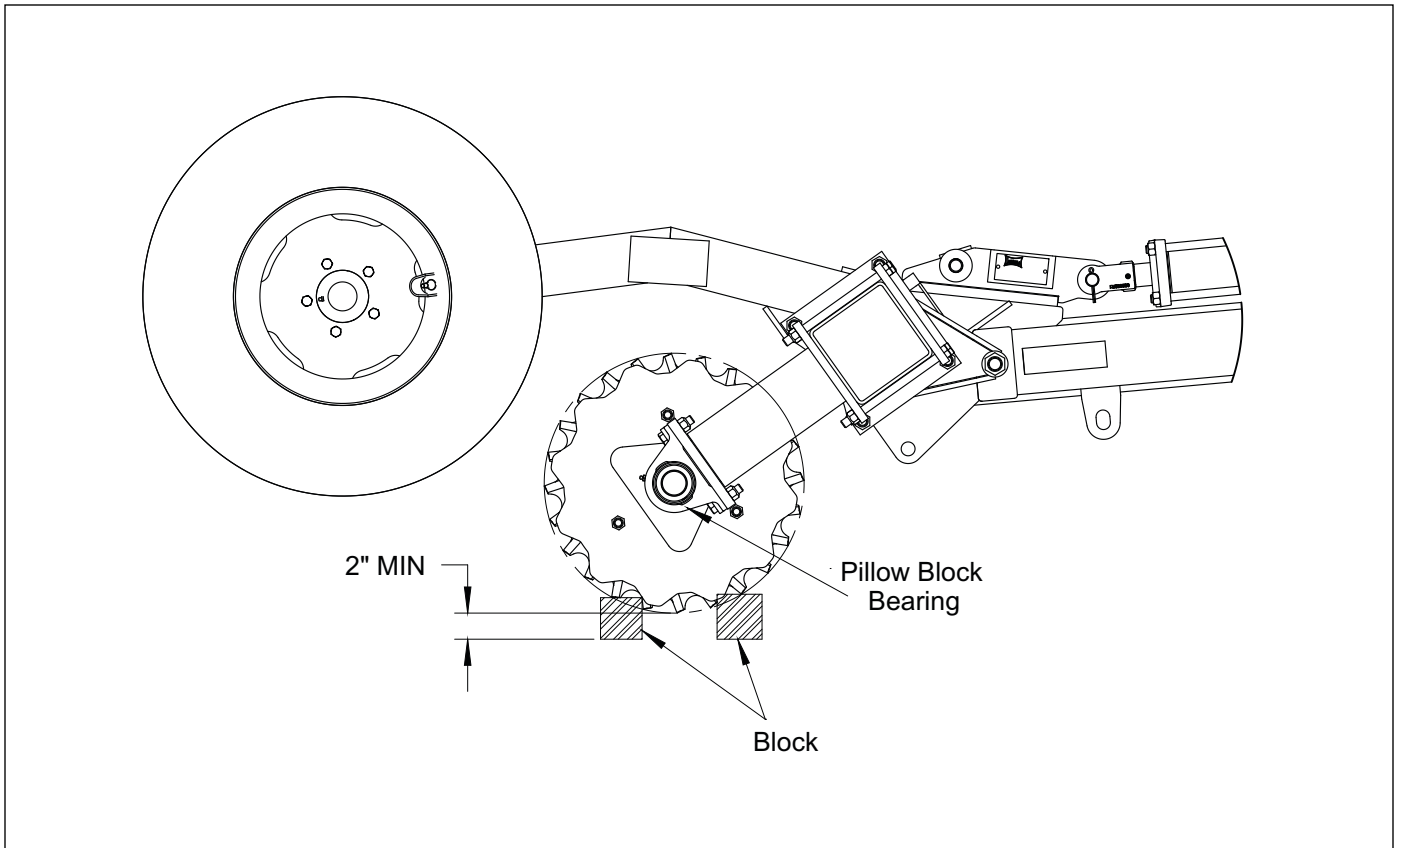

Figure 4-3: Pillow Block Bearing
1. Attach a tractor to the Pulverizer, put the tractor transmission into PARK or lock the brakes preventing tractor from moving. Hydraulically raise the Pulverizer to the transport position and insert the transport pin. With the pulverizer in the transport position, slide all the wheels toward one end of the drum. Remove the transport pin and lower the machine so that the roller wheels rest on blocks approximately two inches off the ground. **See Figure 4-3.** Continue to lower the machine until the outside of the roller drum contacts the bottom ring of the roller wheels.